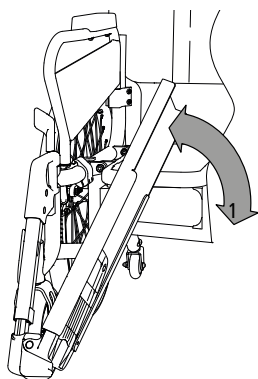

Fig. 26
1. The foot board, depending on the side it is assembled on, can be swivelled upwards or downwards to the left or right (1, Fig. 26).